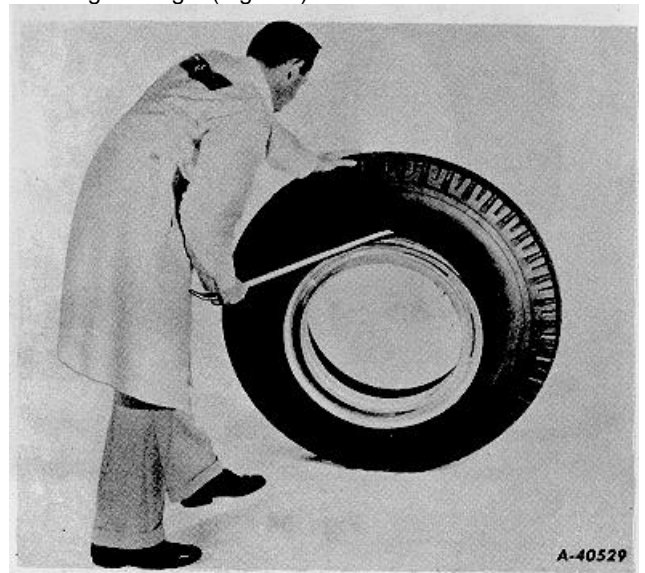

Fig. 32
3. Stand assembly in a vertical position and lubricate second bead. At top of assembly, insert straight end of tool between bead and back flange of rim at about 45 degree angle (Fig. 32).